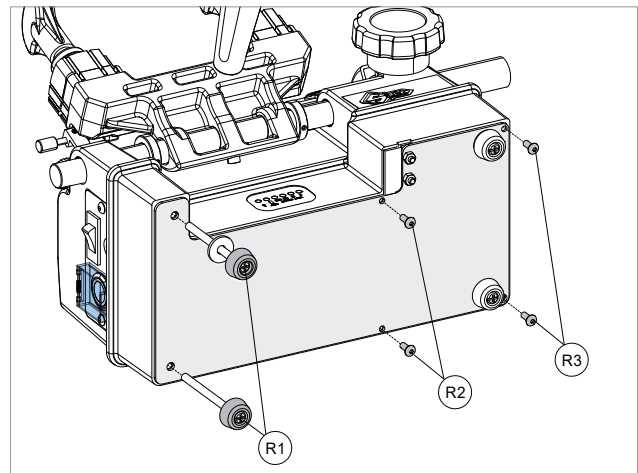

Fig. 39
- 1) Carefully turn the key-cutting machine onto its back as shown in picture (Fig. 39).